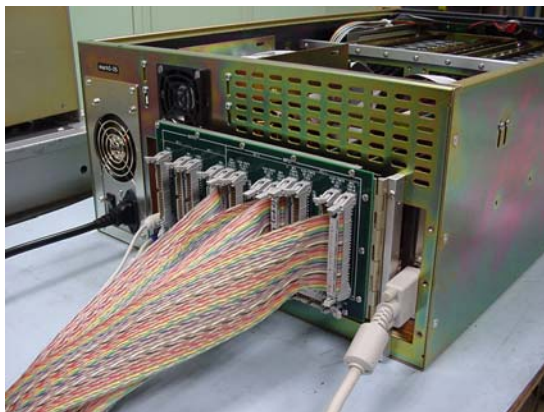

Figure 8: I/O Panel Attachment (may vary somewhat)
4. Attach the I/O Panel to the rear of the chassis (see Figure 8) with the supplied screws.